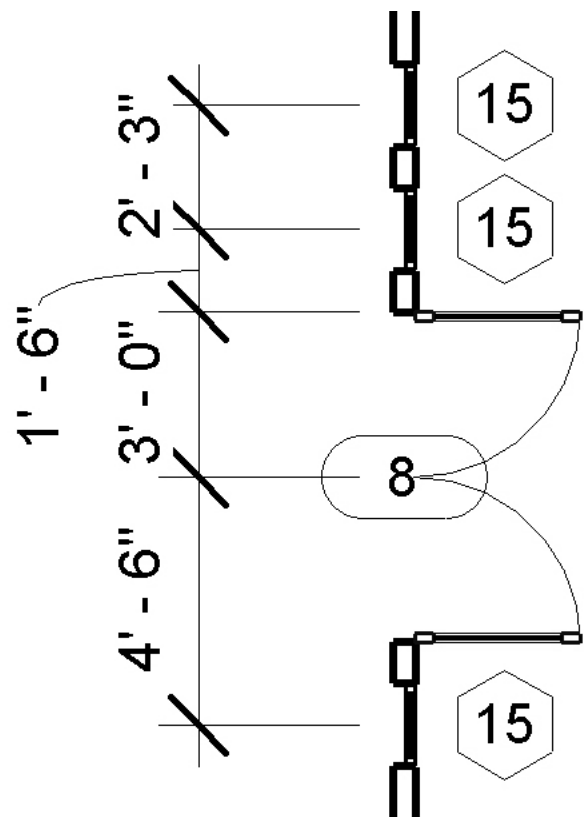

Figure 3-5.7 Sidelights added
12. On the west side of the atrium, insert the borrowed lights as shown in Figure 3-5.7; do not draw the dimensions.